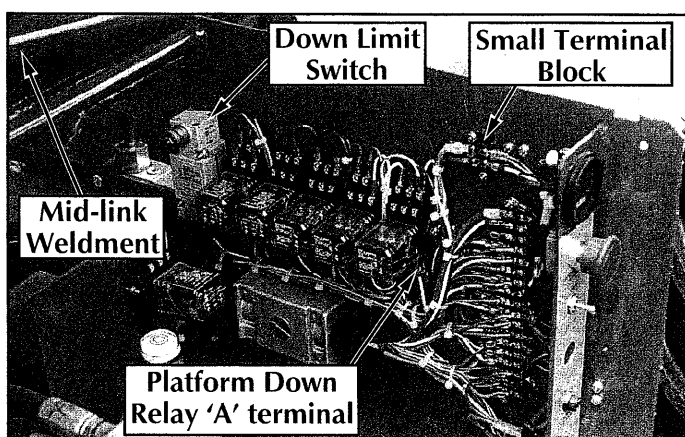

Figure 4-9: Platform Down Limit Switch
PLATFORM DOWN LIMIT SWITCH (Figures 4-9 & 4-10)
2. Disconnect the black wire on the small terminal block and the white wire connected to the 'A' terminal of the Platform Down Relay (Figure 4-9). Connect an ohmmeter or continuity tester to the wires.